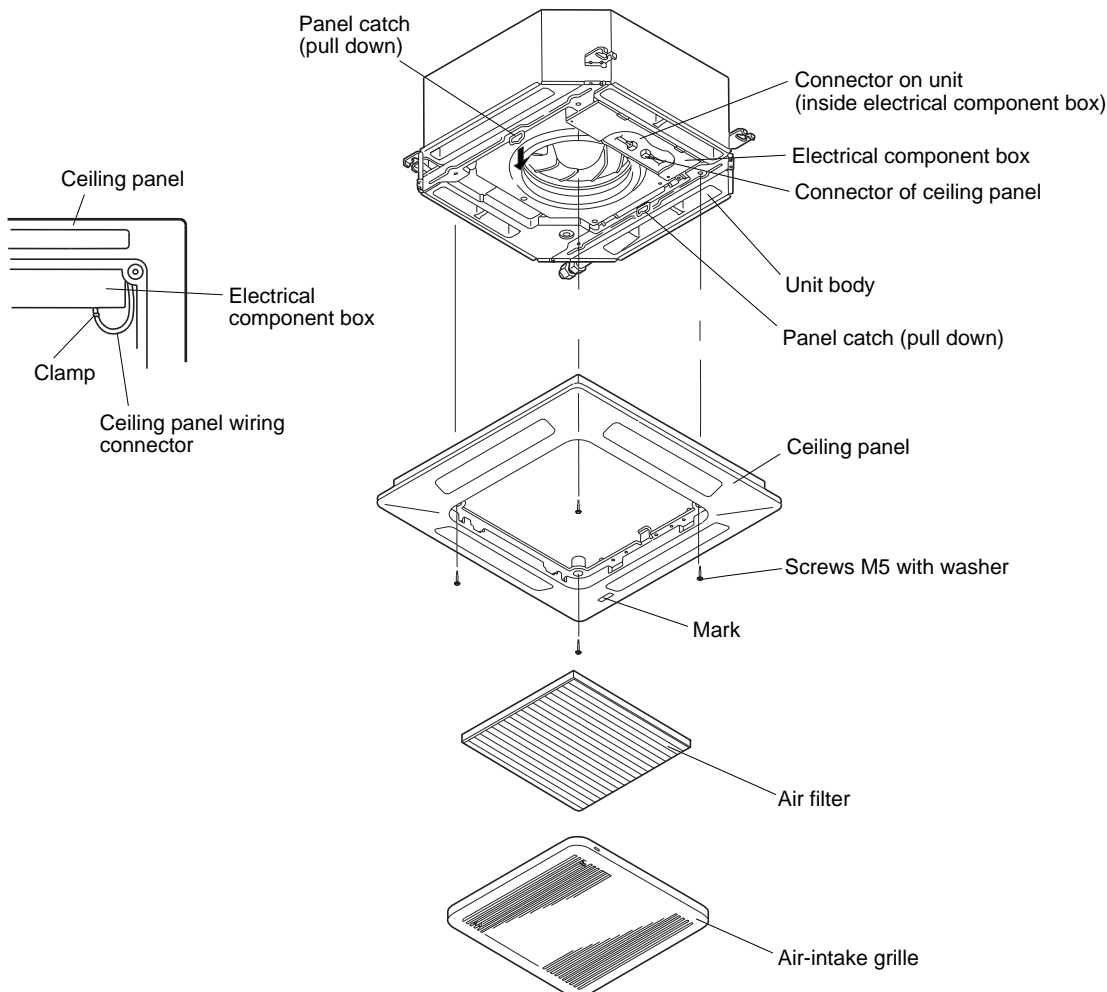

Fig. 10-10
- (2) Pull down the two panel catches on the body of the indoor unit. (Fig. 10-10)